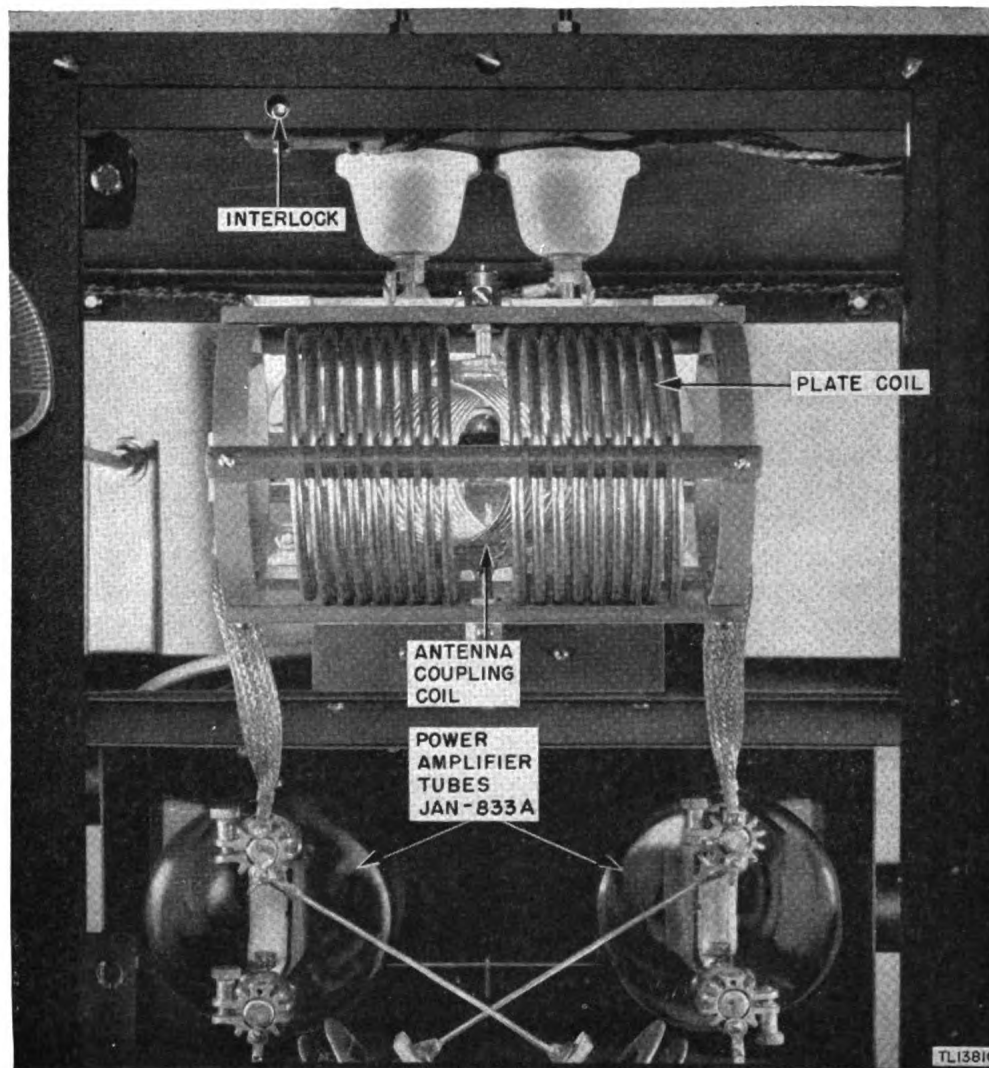

Figure 27. Radio Set AN/MRC-1—amplifier antenna coupling coil.
(18) If grid current reading is higher or lower than 200 ma, adjust AMPLIFIER EXCITATION ADJUSTMENT (VARIAC) on Radio Transmitter T-62()/MRC-1 until a reading of 200 ma is obtained on the power-amplifier GRID CURRENT meter.
(19) Open panel to right of PLATE TUNING dial and adjust the antenna coupling coil (located inside the plate coil) to approximately 180° (minimum) coupling, (See fig. 27.) Close panel.
(20) Throw Power Amplifier AM-35()/MRC-1 PLATE POWER switch to ON.
(21) Tune PLATE TUNING dial on the amplifier for minimum reading on the PLATE CURRENT meter.
(22) Adjust antenna coupling coil a few degrees at a time, each time returning PLATE TUNING dial for minimum reading. Continue this until a maximum reading is found. Always throw PLATE POWER switch OFF when adjusting coupling, but remember to throw switch back ON. Depending on frequency and accuracy of antenna length, a maximum reading of 350 ma should be obtained.
(23) When the maximum reading has been ob-